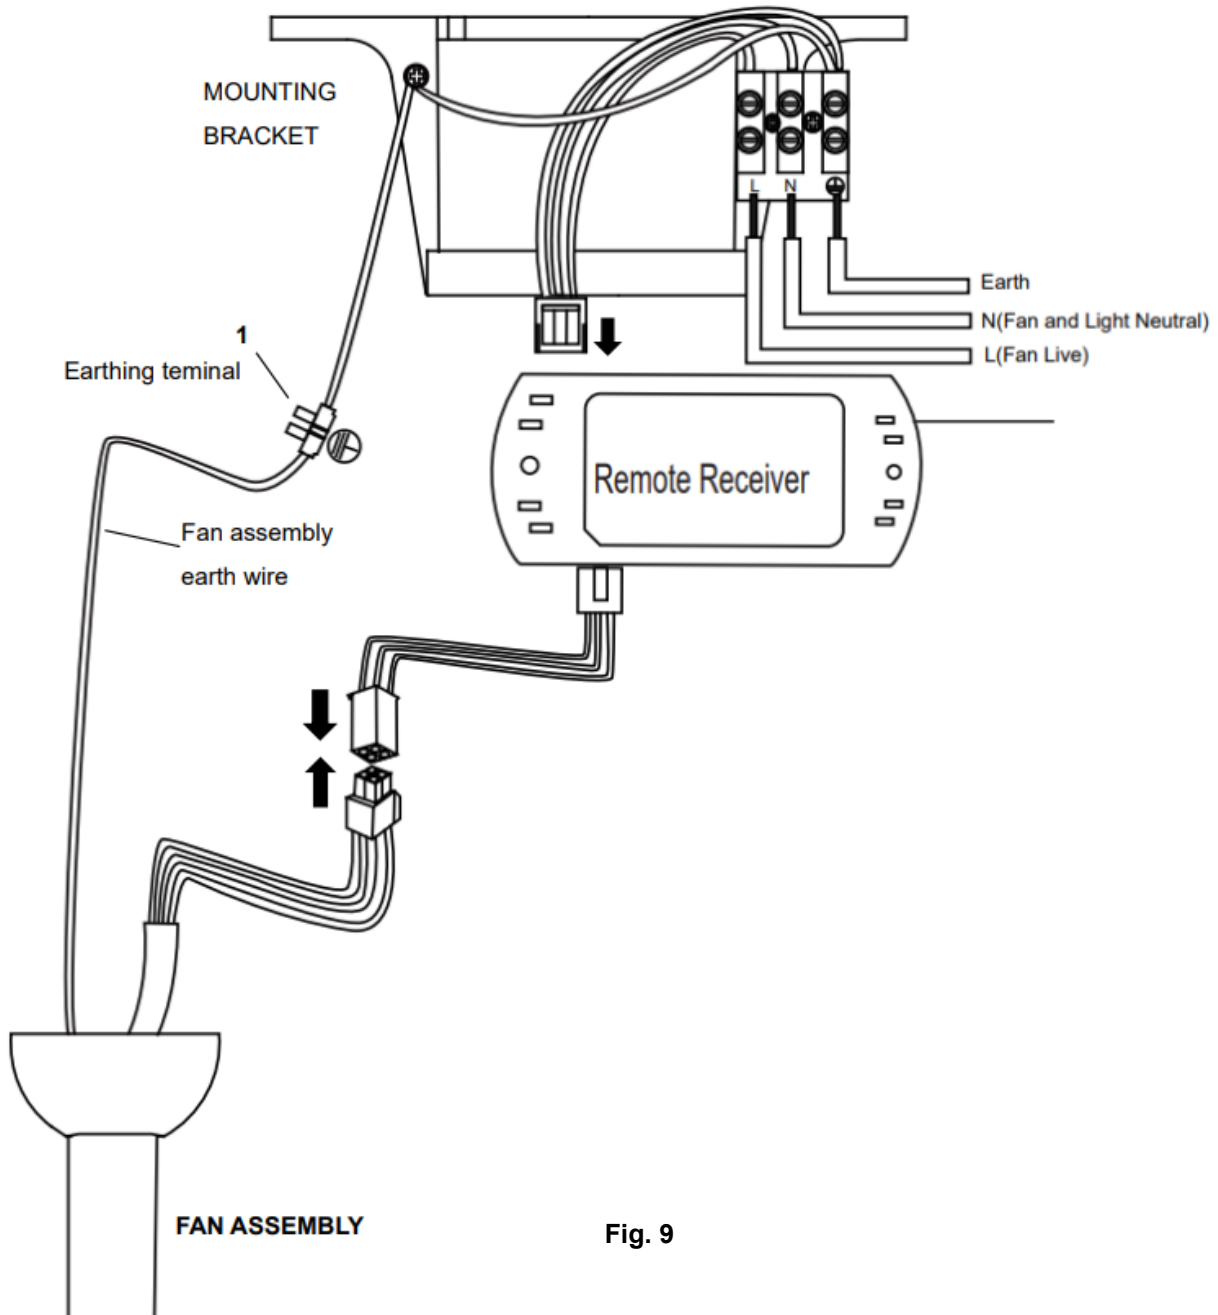

Fig. 9
**PREPARE AND COMPLETE THE ELECTRICAL WIRING --- WIRING DIAGRAM (FIG. 9)**
**NOTE:** Ensure the motor earth wire is connected to the single earthing terminal block “1” in the diagram below (Fig. 9).
**From mains supply to mounting bracket terminal block: (Fig. 9)**
**From mounting bracket to receiver and motor: (Fig. 9)**